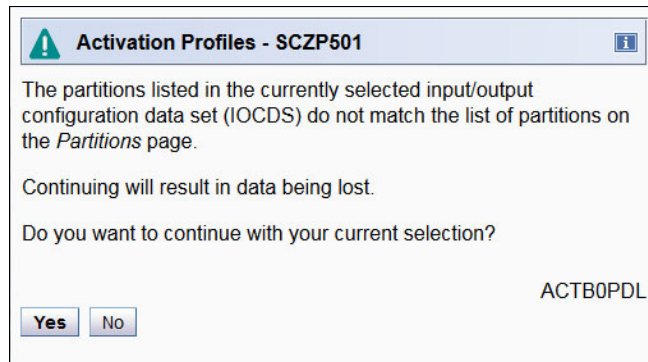

Figure 6-142 HMC - Activation Profiles: ACTB0PDL message
8. Click the IOCDS that you updated in 6.9, “HCD/HMC: Loading the 2964 processor IOCDS” on page 334. The ACTB0PDL message is displayed (Figure 6-142).